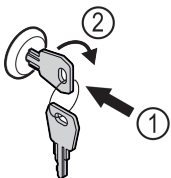

Fig. 195 Example illustration
- Insert key Fig. 195 (1).
- Turn key clockwise by 90° Fig. 195 (2).